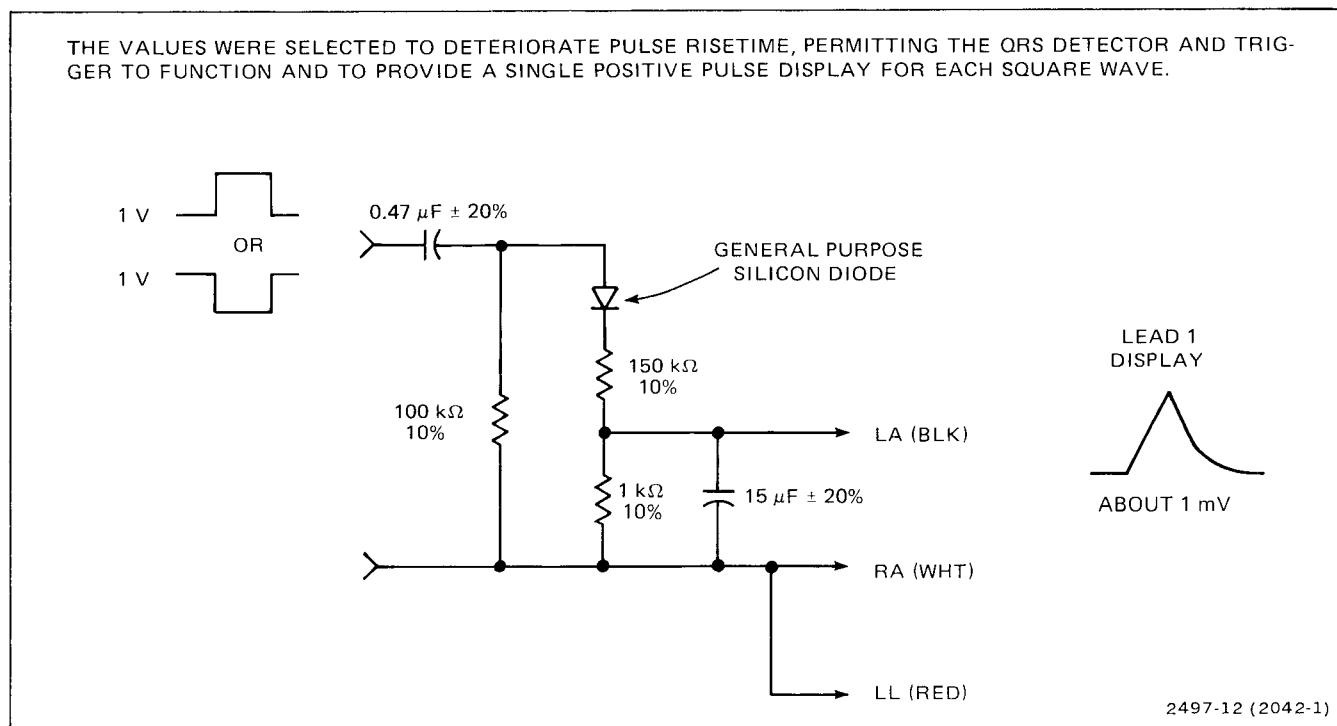

Figure 5-3. Low-pass filter.
b. Connect function generator square wave through low-pass filter (Fig. 5-3) to monitor **ECG INPUT** connector. Display about 4 cm at 4 Hz (verify frequency with universal counter).